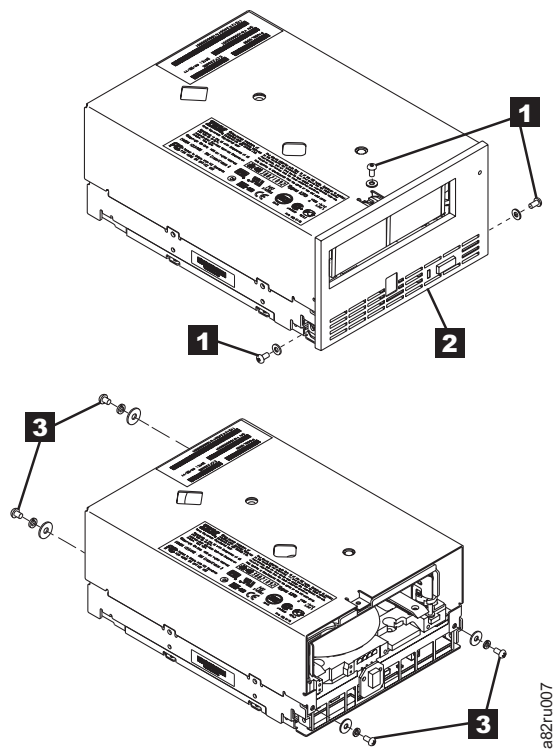

Figure 10. Removing the cover from the internal drive
- a. Using a Phillips screwdriver, remove the three screws and washers (see **1** in Figure 10) that secure the bezel **2** to the internal drive, then remove the bezel.